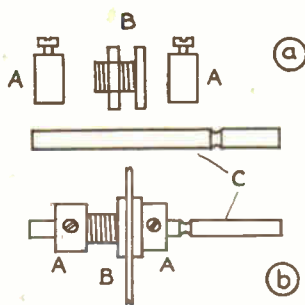

Fig. 4
Now make the drive spindle (Fig. 4). The drawings are self-explanatory. (C) is $\frac{1}{4}$ in. spindle with a groove filed in it for the drive cord to lie in. (B) is a $\frac{1}{4}$ in. panel bushing. (A,A) are sawn off a brass spindle coupler. First, bore a hole, to take the panel bushing, in the front runner of the chassis, and fix it in. Insert the spindle and add (A,A) and tighten the holding screws, to give an efficient spindle drive as at (b) Fig. 4.